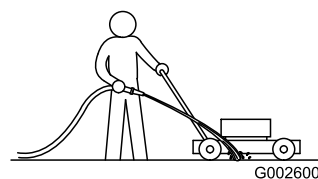

Figure 48
1. With the engine running on a flat paved surface, spray a stream of water in front of the **right** rear wheel (Figure 48).